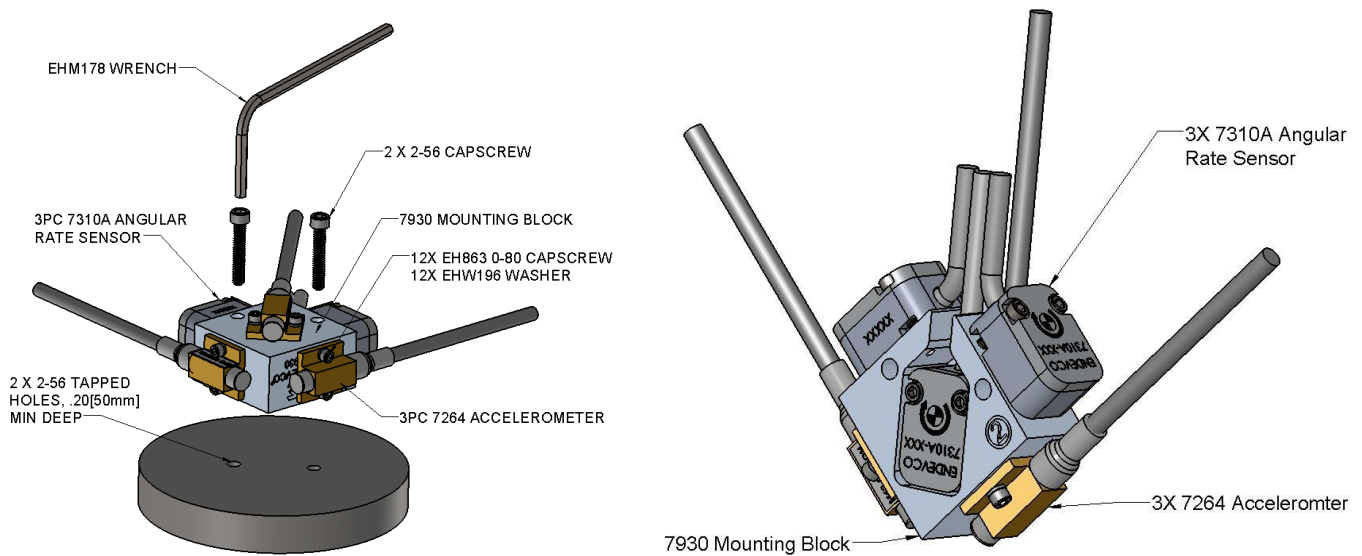

FIGURE 3. (Left) Installation of 3pc Model 7310A Angular Rate Sensor and 3pc Model 7264 Accelerometer onto Model 7930 Triax & 6DoF Mounting Block
The Model 7930 mounting block features Six Degree-of-Freedom (6DoF) measurement capability consisting of three axes of linear acceleration and three axes of angular velocity. 6DoF measurement is important in applications such as automotive safety testing, aerospace testing and other testing in harsh shock and vibration environments requiring accurate measurement of a combination of linear and angular motions. For 6DoF measurement, 3pc Model 7310A angular rate sensors and 3pc 7264 accelerometers are installed to the 7930 mounting block with 0-80 socket head screws and washers per steps 5.2 to 5.5, as shown in Figure 3. Same as the triaxial installation in step 5.6, the three angular rate sensors should be installed to the three primary mounting surfaces marked ①②③ of the 7930 mounting block, and they can be mounted on either the top or the bottom surface of the sensor depending on the positive direction of rotation in the specific application. The three accelerometers are installed on the other three surfaces of the mounting block, measuring linear accelerations along X/Y/Z axis as in the top left figure of Figure 2. The 7930 mounting block is installed to the mounting structure on surface ② of the block with two 2-56 x 5/8 inch socket head cap screws. Please ensure the two 0-80 screws for mounting the angular rate sensor in slot of surface ② of the block are tightened properly and they do not interfere with the mounting structure surface when the mounting block is installed to the mounting structure. The EHM178 wrench and 2pc 2-56 socket cap screws are supplied as mounting accessories in the shipping container of the 7930 mounting block.